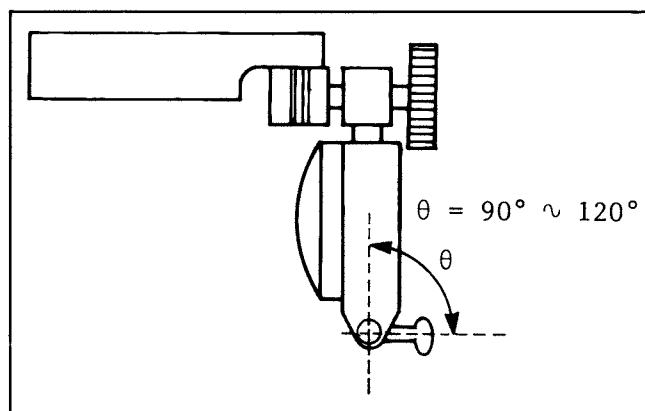

Fig. 2-6. Setting of the Eccentric Gauge
7. Set the Eccentric Gauge as shown in Fig. 2-6.